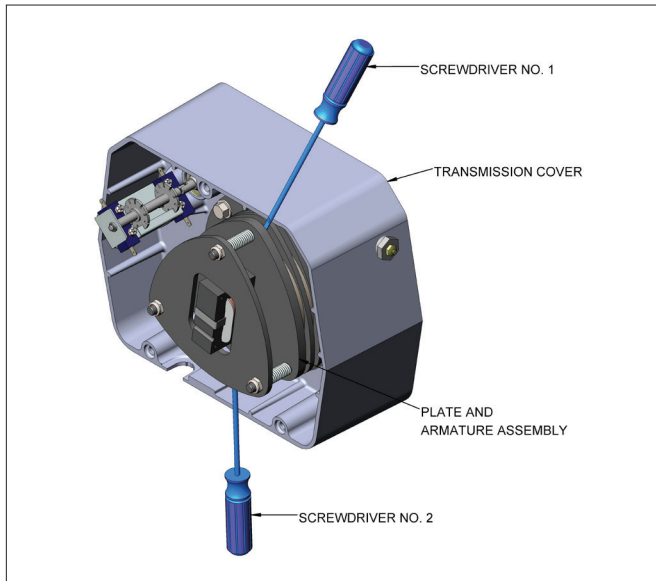

FIGURE 4-1. LOAD BRAKE FUNCTION CHECK
- Check mechanical load brake function (see Figure 4-1).
- c. Referring to Figure 4-1 and Figure 8-8, place screwdrivers No. 1 and No. 2 behind the plate and armature assembly and prepare to pry against the transmission cover.